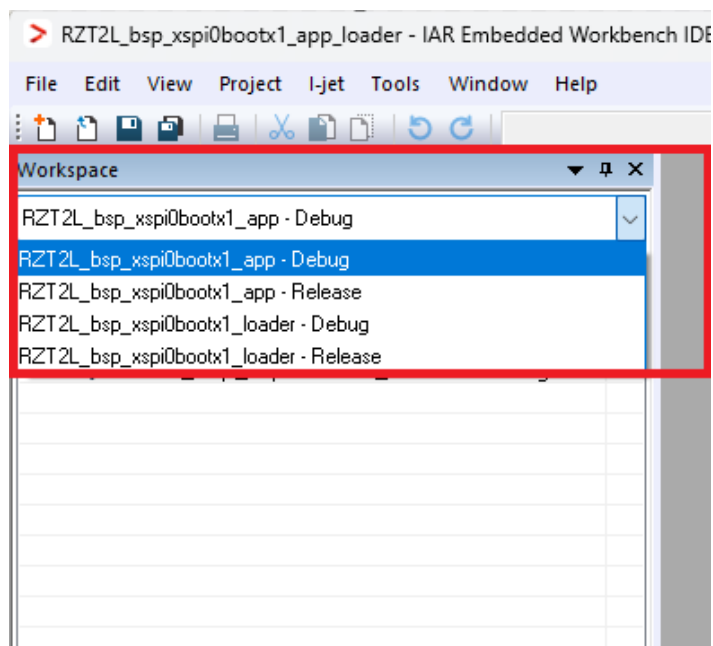

Figure 5.1 Project selection
2. Select "RZ/T2L_bsp_xspi0boot1_app" project in Workspace box as Figure 5.1.